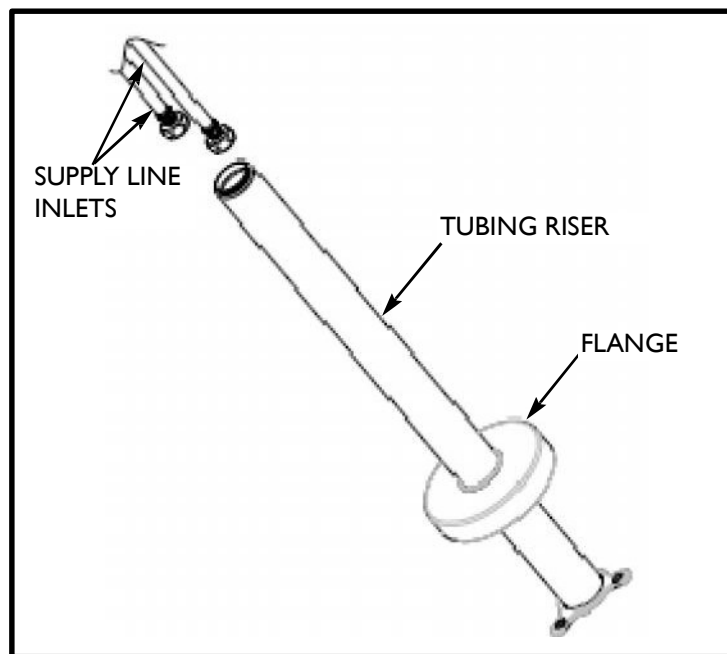

Figure 3
STEP 1: Assembling the Tub Filler: Figure 3 illustrates the staggering technique required to thread the two $\frac{3}{4}$ " INLETS of the flexible SUPPLY LINES through the TUBING RISER.